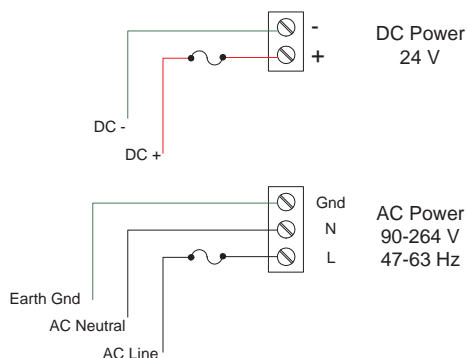

Figure 1. Power Connections
- Use three-terminal power connector as shown in Figure 1.
- Use two-terminal power connector as shown in Figure 1.